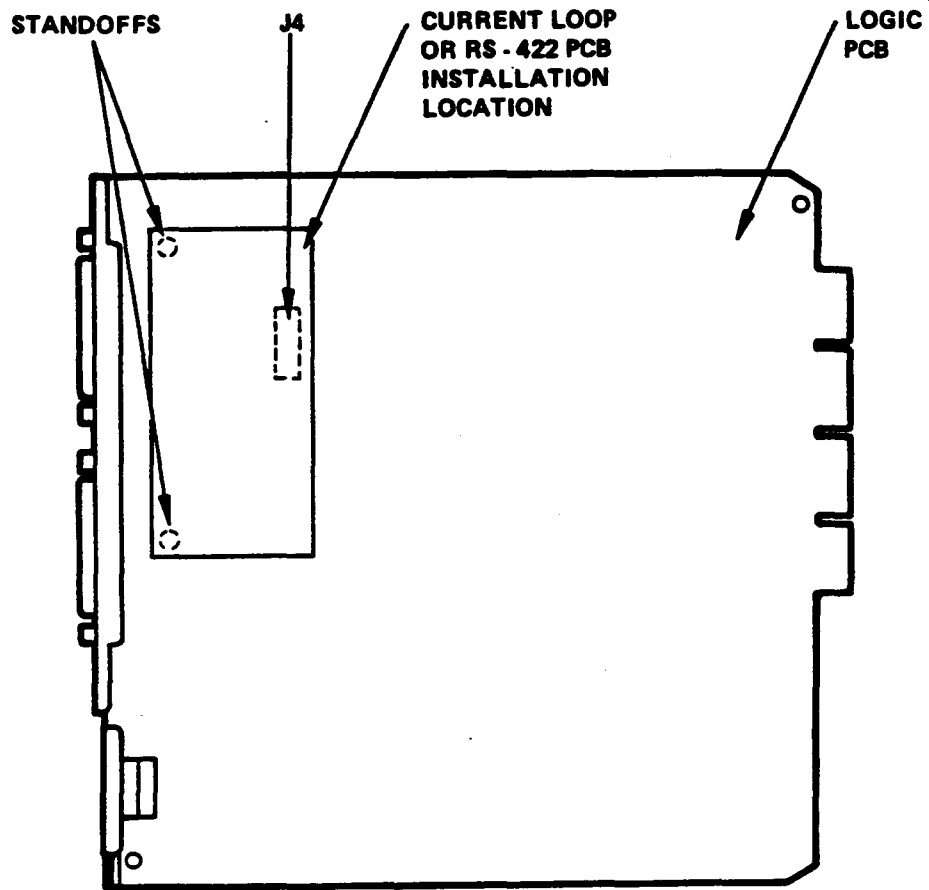

Figure A-1. Installation of Current Loop or RS-422 PCB
4. See Figure A-1 for the location of the stand-off(s) on the Logic PCB.
5. After removing the two jumpers on P16 place the Current Loop PCB or the RS-422 PCB (with component side up) on top of the Logic PCB and mate J16 connector on the Current Loop PCB or the RS-422 PCB with P16 on the Logic PCB (see Figure A-1). Press J16 firmly into P16. If the RS-422/CL is removed, the two jumpers must be put back on: P16 pin 3-12 and P16 pin 5-10.